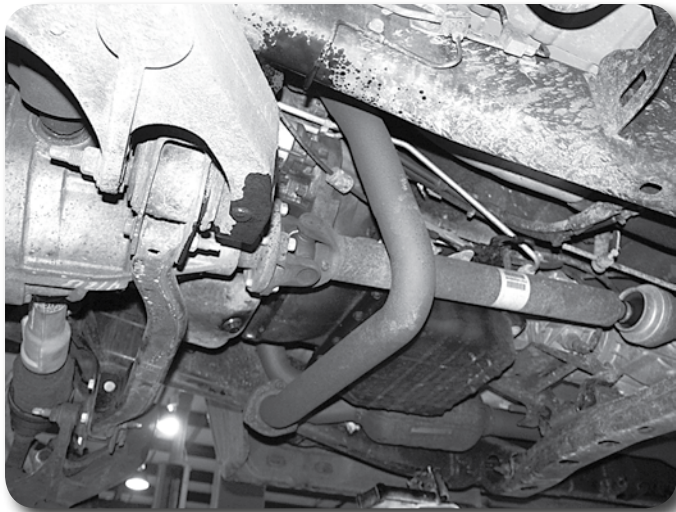

Figure 10
23. Locate the exhaust crossover pipe. If the crossover pipe runs under the front driveshaft it must be modified **Figure 10**. The pipe can either be completely removed or cut to clear the driveshaft at this time. The other option is to wire up the front drive shaft if traveling a very short distance to the exhaust shop. Note: Vehicles equipped with a crossover pipe that runs near the transfer case will not require an exhaust modification. Have the exhaust modifications completed by a quality exhaust shop when the installation of this suspension system is complete.